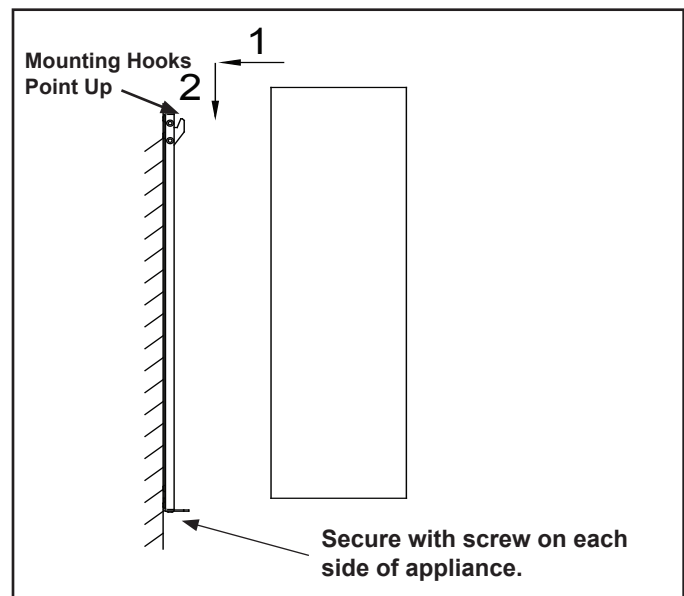

Figure 6 Attaching Appliance to Bracket
- Hang the appliance and pull down to ensure the hooks are fully engaged. See Figure 6.
- Secure the appliance to the bracket with two M5X10 screws. See Figure 6.